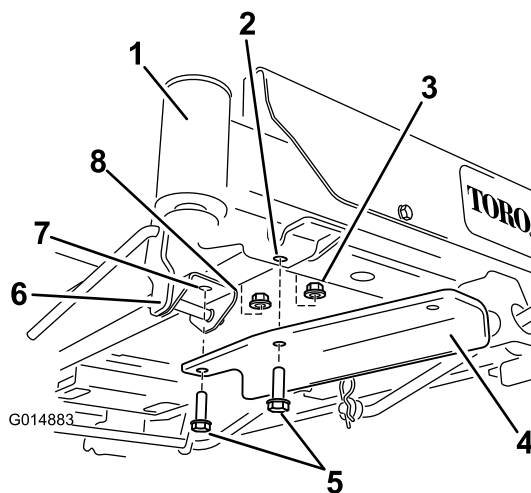

Figure 9
- For machines with a foot assist lift pedal, Remove the forward fasteners in the foot assist lift pedal bracket and secure the bracket using 2 bolts and 2 locknuts (Figure 9).